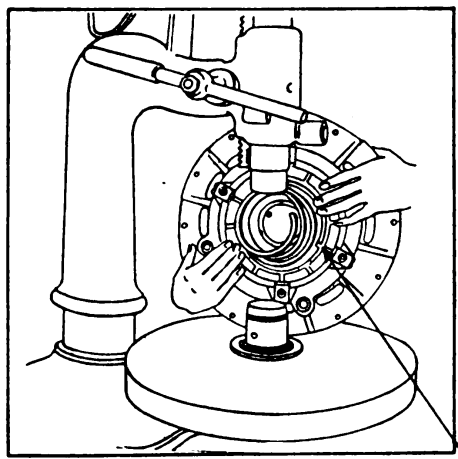

Figure 407
With large coil of the pressure spring (122) abutting the small boss in the adjusting plate, place the flywheel ring (102) adjusting plate (118) and spring above the sleeve. Figure 407.